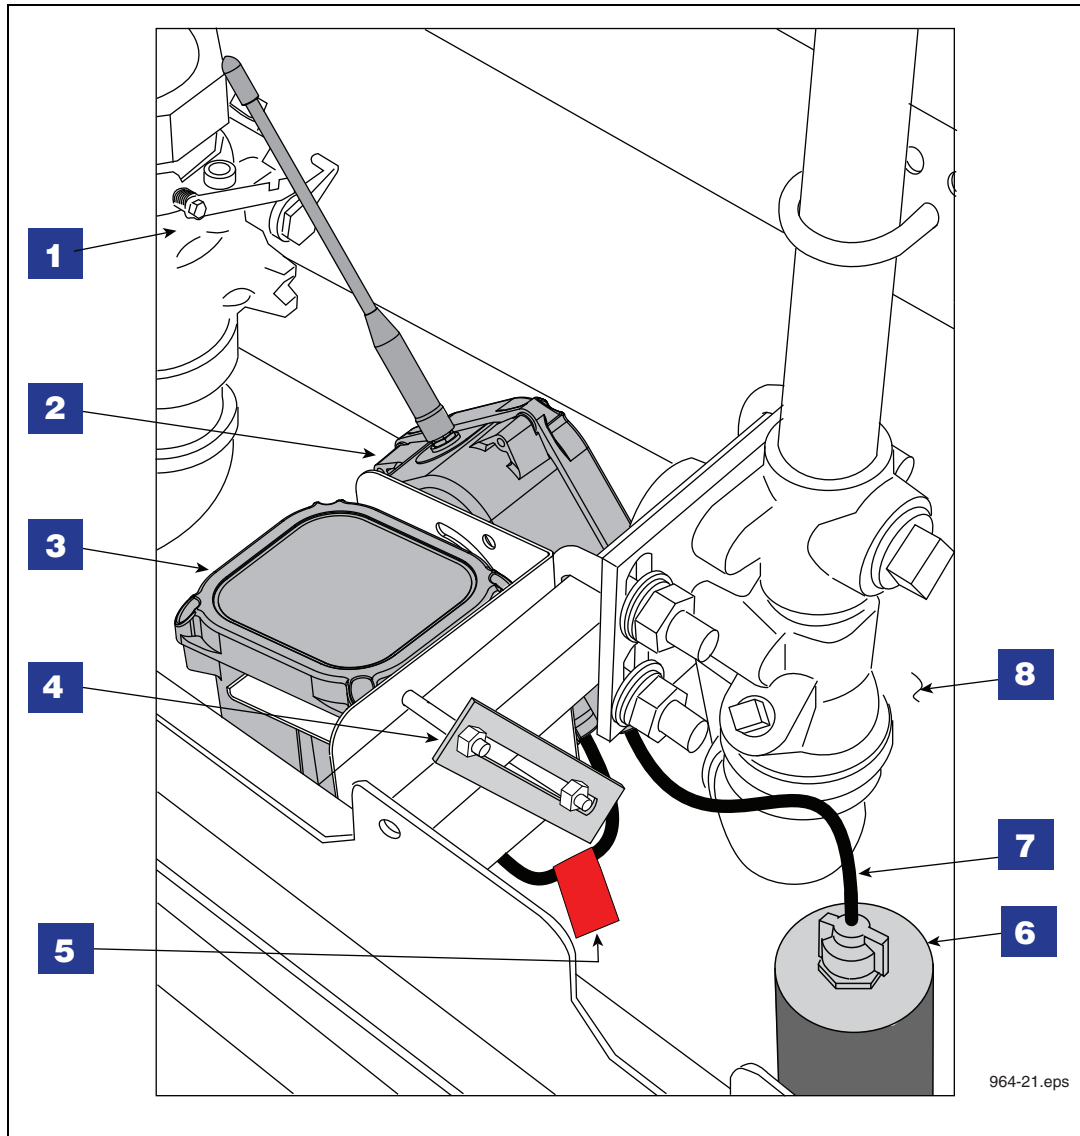

Figure 20. Example Transmitter Installation in Dispenser Sump
4. Get the 1 inch by 6 inch slotted flat bar from the kit and two $\frac{1}{4}$ x 3-inch bolts and two nuts. Clamp the bracket to a section of the square support tubing in the sump, below the shear valve (see Figure 20).
LEGEND FOR NUMBERED BOXES IN Figure 20